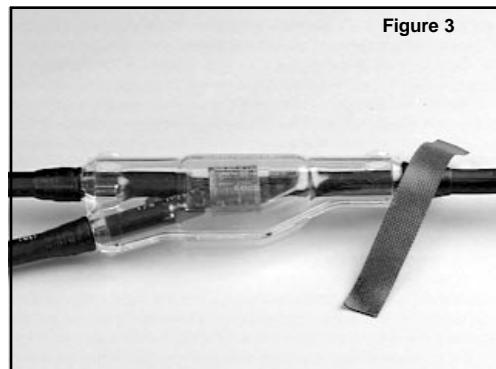

Figure 3
- 5.1 Trim mold ends with knife to fit cable slightly loose. Hold mold halves in place, centered over splice, snap mold halves together firmly. Check to see that both seams are carefully snapped together. Tape ends of mold body around cable to seal. Use Scotch™ 23 Electrical Tape supplied with kit. See Figure 3.